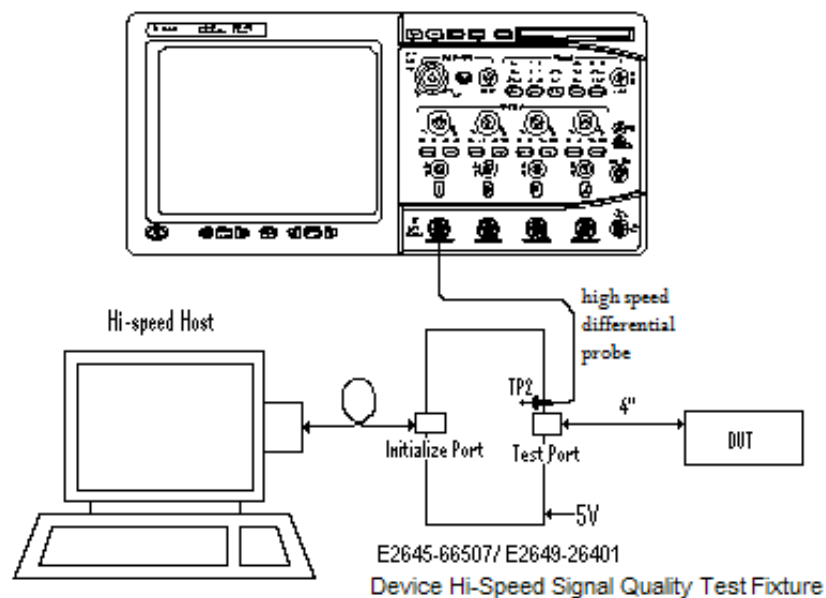

Figure 27. Device Hi-Speed Signal Quality Test environment
2. Connect the equipment and test fixture as shown in Figure 27.